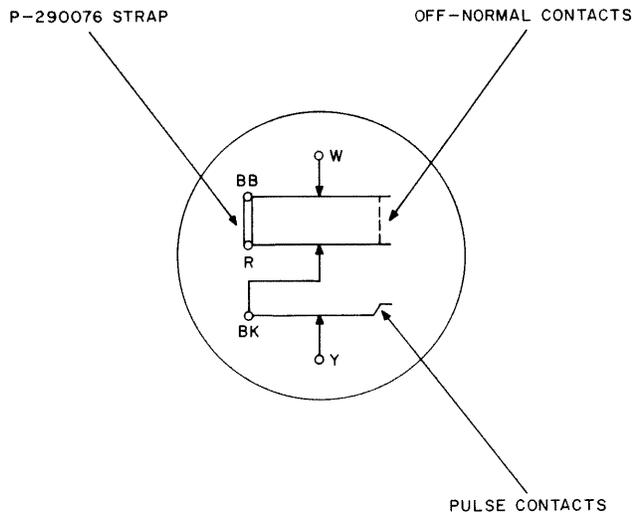

Fig. 11 — Use of Dial Straps
- 3.08 When 5- or 6-type dials are used in station circuits where the R spring is not normally required, it is necessary to strap dial terminals R and BB with P-290076 dial straps as shown in Fig. 11.